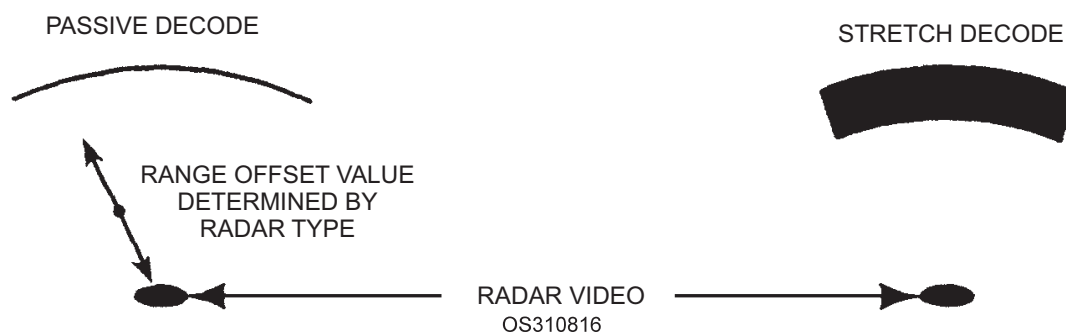
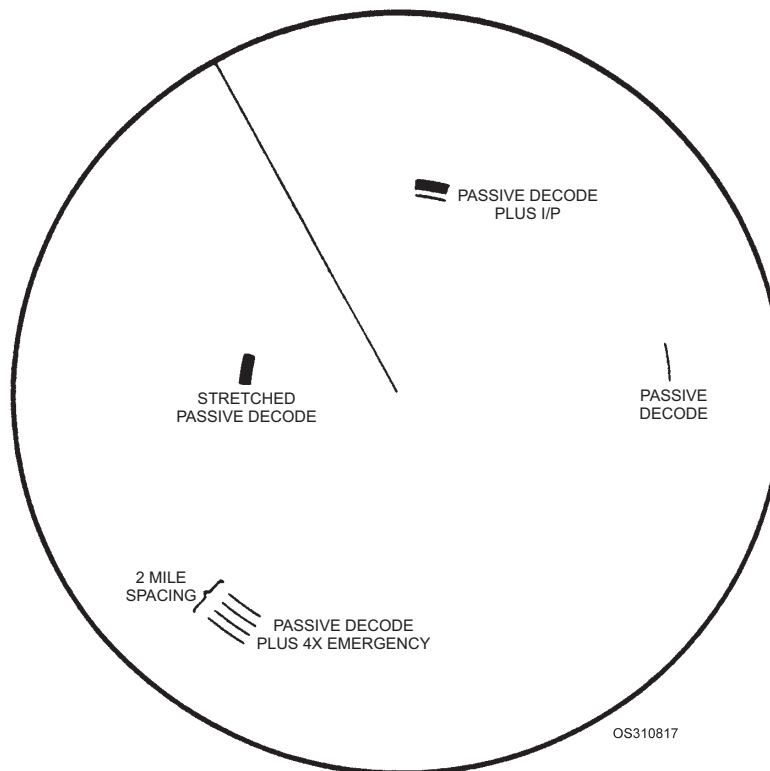

Figure 8-16.—Passive decode and stretch decode displays.
Figure 8-17.—Passive decode displays.
You may choose the passive decode (no display the IFF codes) function for modes 1, 2, and 3/A operation by setting the DECODE/OFF/CODE switch (11) to DECODE. This provides a 1.0 μ s single-pulse output for each mode 1, 2, or 3/A target reply, only if the reply code matches the associated MODE code switch (27) (25) (8) settings on the decoder front panel. If you need to make the code video for a specific aircraft stand out from the other video, you can stretch the passive decode pulse to 10 μ s (fig. 8-16) by setting the STRETCH/OFF switch (9) to STRETCH (See figure 8-17). Mode C replies represent altitude and are not passively decoded. For certain target overlap (garbled) conditions, you may inhibit the passive decode function to keep it from being displayed.
The X-pulse decode format provides a single display pulse for all reply codes that contain both an X-pulse and a good code match with the associated mode's code switch settings. X-pulse replies are transmitted only from pilotless aircraft and are not present for mode C. You must know the reply code of a pilotless aircraft before you can display the reply using X-pulse decoding. X-pulse decode displays are identical to the passive decode displays of figure 8-17. To activate X-pulse decoding, position the I/P/OFF/X switch (26) to X and set the code in the selected mode's code window (27, 25, or 8). See figure 8-12.
The stretched X-pulse decode plus bracket decode provides a single pulse for all targets with bracket replies (including mode C) and a stretched pulse for targets that meet the passive decode with X-pulse requirements. The required switch settings are the BKT/OFF switch (UPA-S9/59A) or BKT/OFF/ALL switch (UPA-59B) set to BKT, the I/P/OFF/X switch set to X, and the desired codeset in the selected mode's code window. See figure 8-17 for the stretched passive decode display.